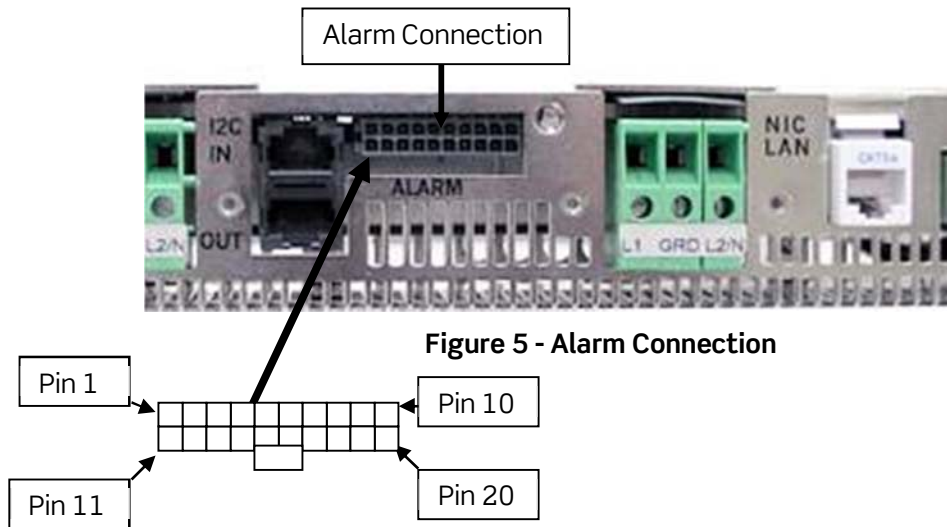

Figure 5 - Alarm Connection
1. The pin-out of the alarm connector on the shelf is at 180°, unlike the pin-out of a standard Molex connector (see Figure 5).